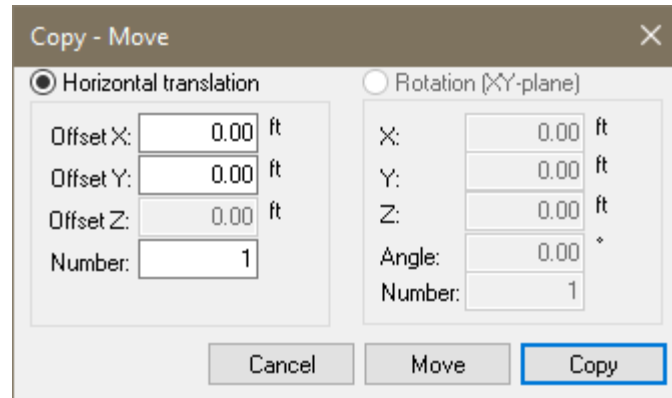

Figure 8-26
- With the vertical line selected go to *Modify* → *Copy/Move* and click the *By Coordinates*  icon. This will open the Copy – Move dialog window shown in **FIGURE 8-26**.